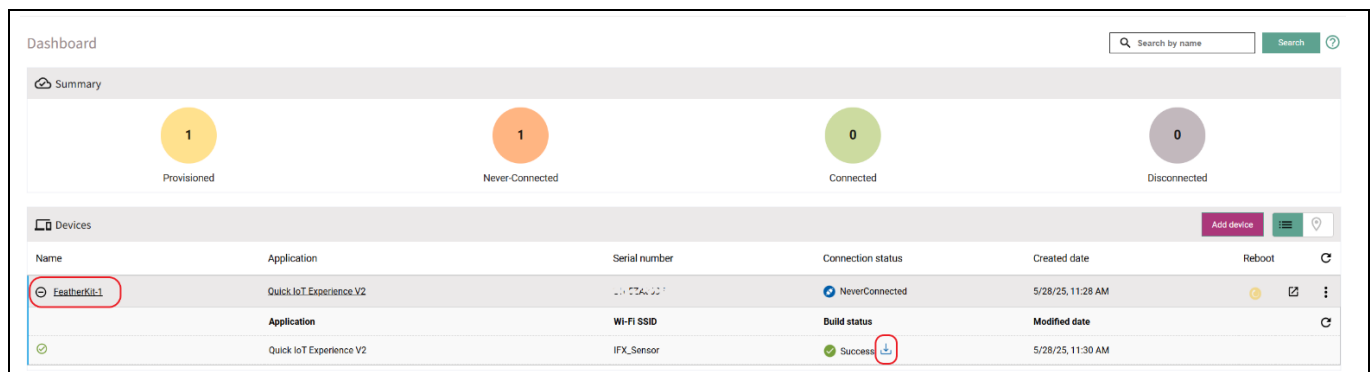

Figure 13 Device management dashboard
- After you click **Submit**, a custom *hex* file will be built for your device, and a software bundle will be generated for programming your development kit, as shown in Figure 13
Depending on your laptop or PC's operating system (Windows/Linux/Mac), you will receive a downloadable package that includes a *hex* file firmware image and a programming tool for your KIT_CSK_BGT60UTR11AIP kit. The package will be in the form of a zip file. To view the detailed device status, click on the ⊕ (expand) button. To download the zip package, click ↓ (download) next to **Success** on the application as shown in Figure 13.